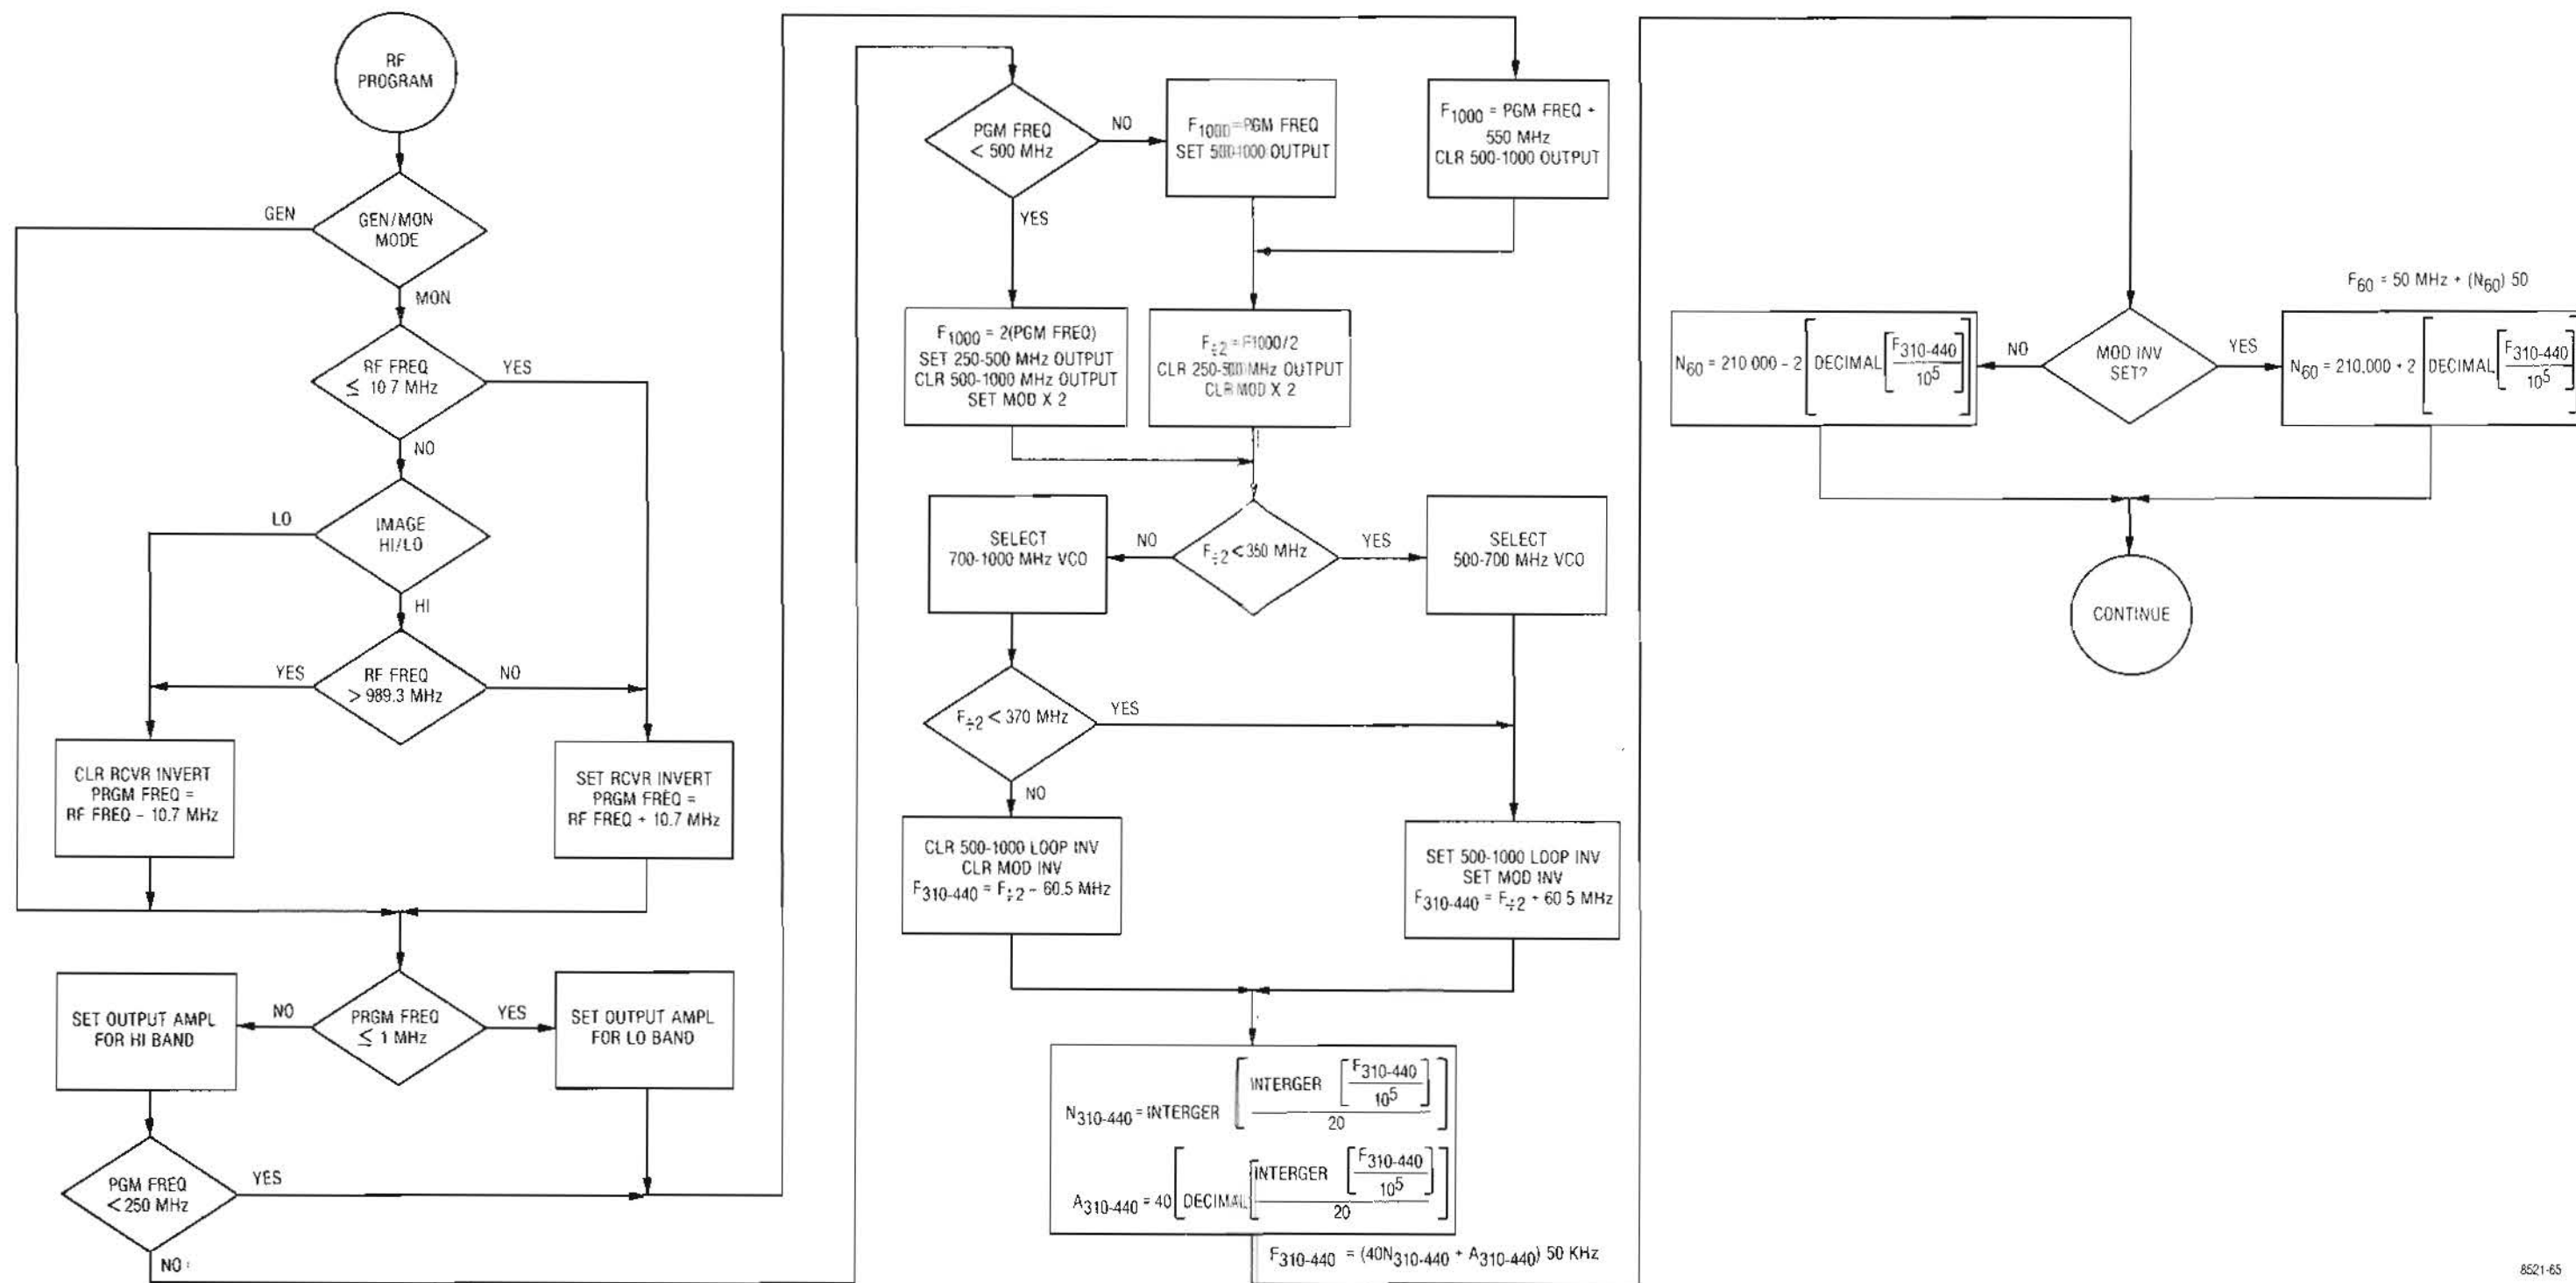

Figure 11-2. Frequency Programming Flow Diagram
**11-4.** A basic flow diagram for programming the RF Synthesizer is shown in figure 11-2. This diagram includes generate and monitor considerations, wideband amplifier control, and modulation control.